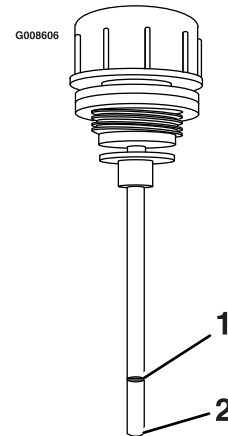

Figure 22
6. Remove the cap again and check the level of the oil on the dipstick. See Figure 22 for oil levels.